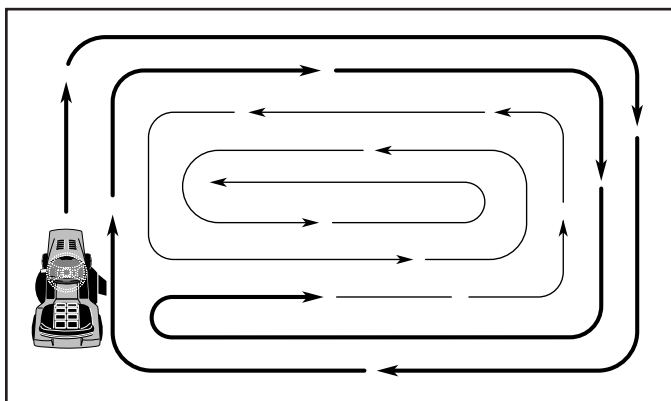

Fig. 7
- When mowing large areas, start by turning to the right so that clippings will discharge away from shrubs, fences, driveways, etc. After one or two rounds, mow in the opposite direction making left hand turns until finished (See Fig. 7).